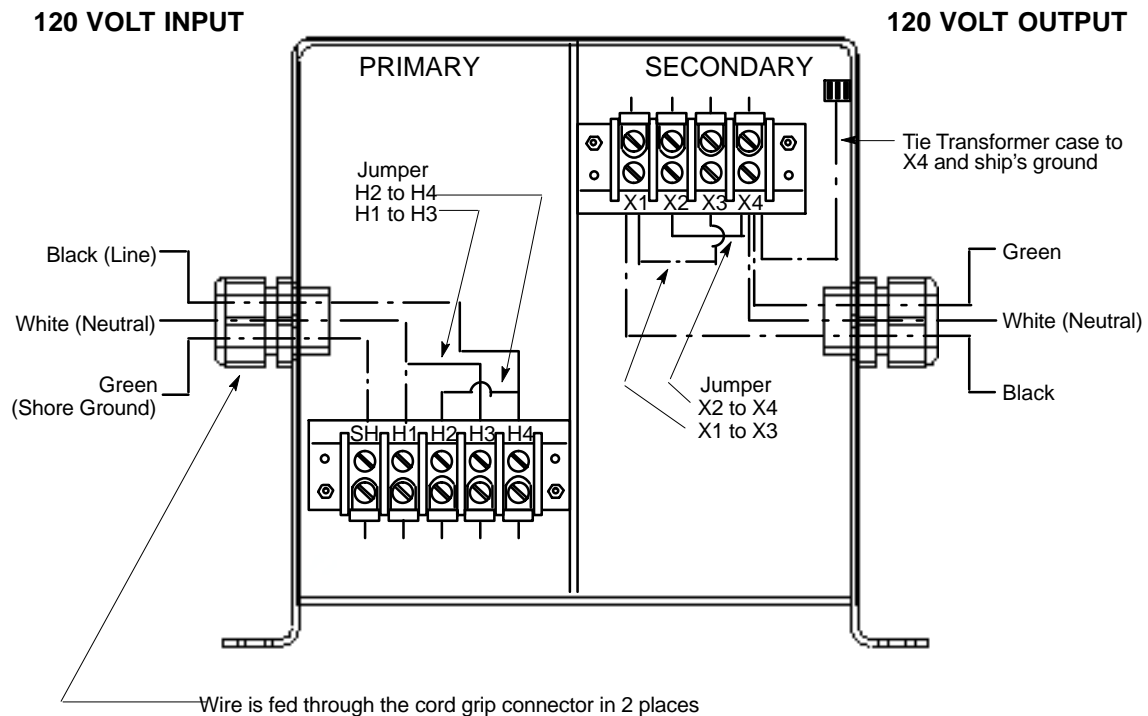
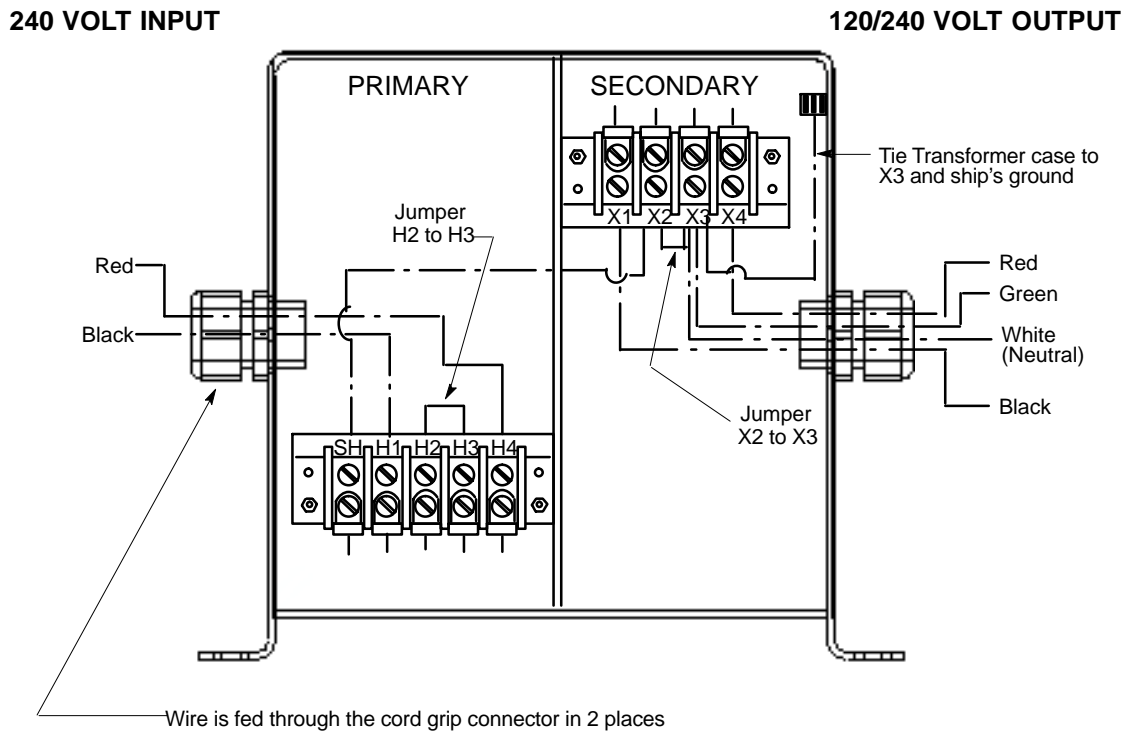

Figure 6. 120V Input, 120V Output – Method 1 (See Figure 2 for Electrical Diagram)
Figure 9. 240V Input, 120/240V Output – Method 4 (See Figure 5 for Electrical Diagram)
8.	Connect all wiring as shown in Figure 6 through Figure 9, depending on the chosen wiring method